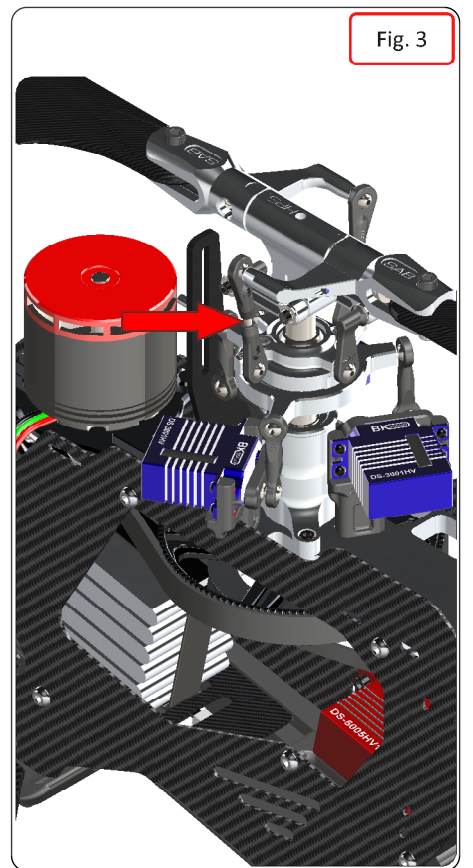

Fig. 3
*It is important to check the correct tracking of the main blades. (Fig 3).